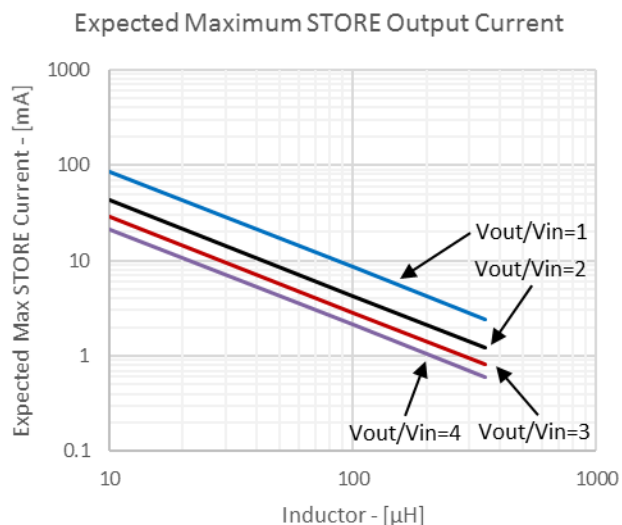

Figure 2.3. Expected Maximum STORE Output Current with 85% Efficiency vs. Inductor Value
2. I_{STORE(MAX)} is provided as the Maximum Average STORE Current by [Figure 2.3 Expected Maximum STORE Output Current with 85% Efficiency vs. Inductor Value on page 6 in 2.2.4 Inductor Selection](#).